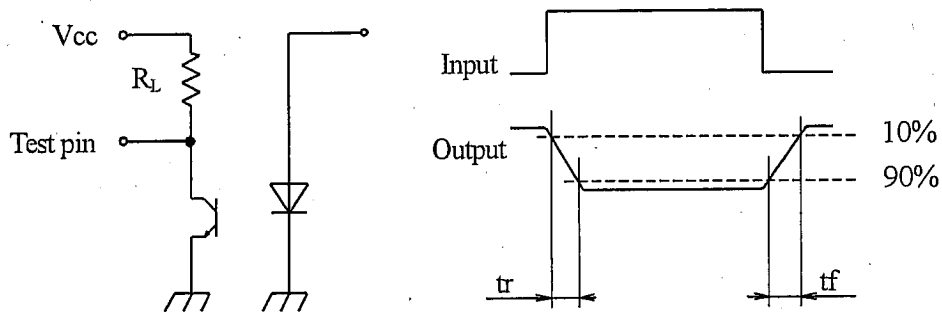

Fig.1 Forward current vs. ambient temperature
- *1 The derating factors of absolute maximum ratings due to ambient temperature are shown in Fig. 1, 2, 3.